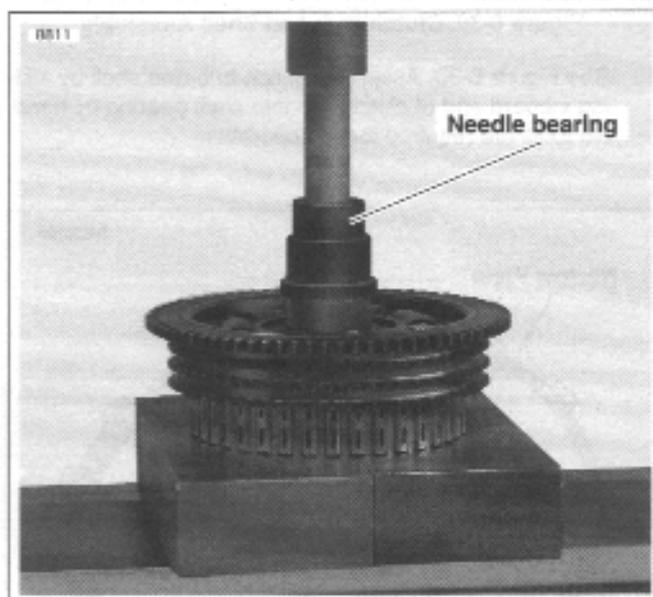

Figure 6-29. Installing Clutch Shell Needle Bearing
3. See Figure 6-29. Place clutch shell on support blocks with sprocket side facing up.